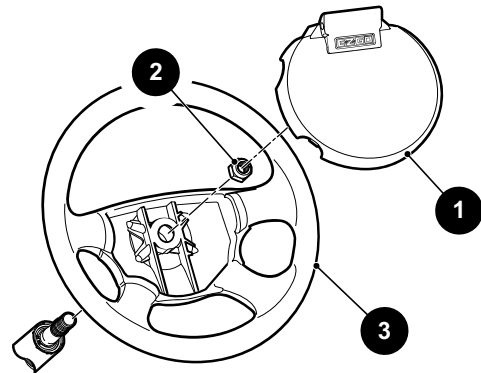

Figure 8 Steering Wheel
3. Loosen the steering wheel (3) retaining nut (2) two or three turns. **Do not remove nut at this time** (Figure 8).
4. Apply upward pressure to the steering wheel (3) by placing a plastic faced hammer against the steering wheel retaining nut. Strike the plastic faced hammer sharply with a ball peen hammer. **Do not strike the**
5. When steering wheel is loosened, remove the retaining nut (2) and steering wheel (3) (Figure 8).
2. Position the steering wheels (3) straight ahead.
3. Align the steering wheel (3) on the steering shaft and push into place (Figure 8).